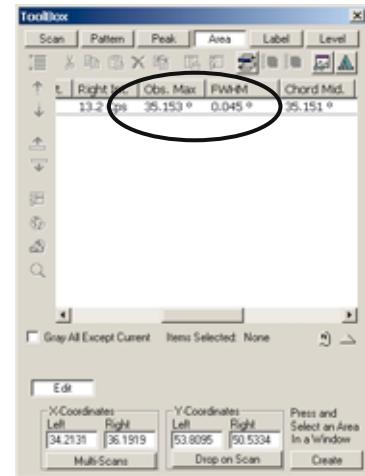

Figure 10.6 EVA Toolbox
3. Review the data displayed in Toolbox (see Figure 10.6).